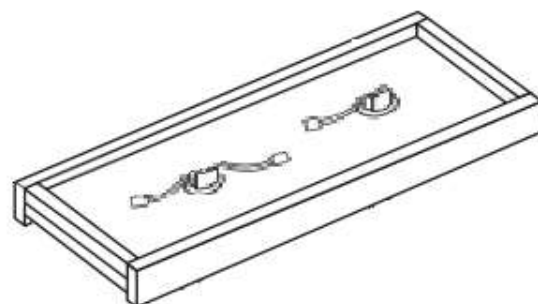

Fig. 2
3. Place the wires through the opening in the header and mount the light fixture to the header using the screws provided as shown in Fig. 2. *(note: There may be a separate connecting wire connecting the two light units. There may also be a separate male plug that will be used on first light only.)*